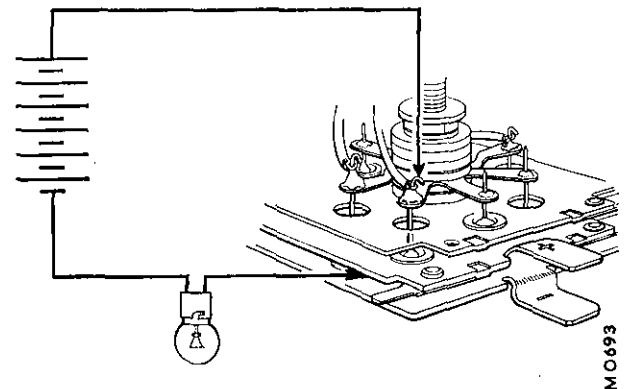

Fig. Nb.18
- (34) Connect a 12-volt battery and a 1.5-watt test lamp in turn to each of the nine diode pins and its corresponding heatsink on the rectifier pack, then reverse the connections. The lamp should light with the current flowing in one direction only. If the lamp lights in both directions or fails to light in either, the rectifier pack must be renewed (see Fig. Nb.18).